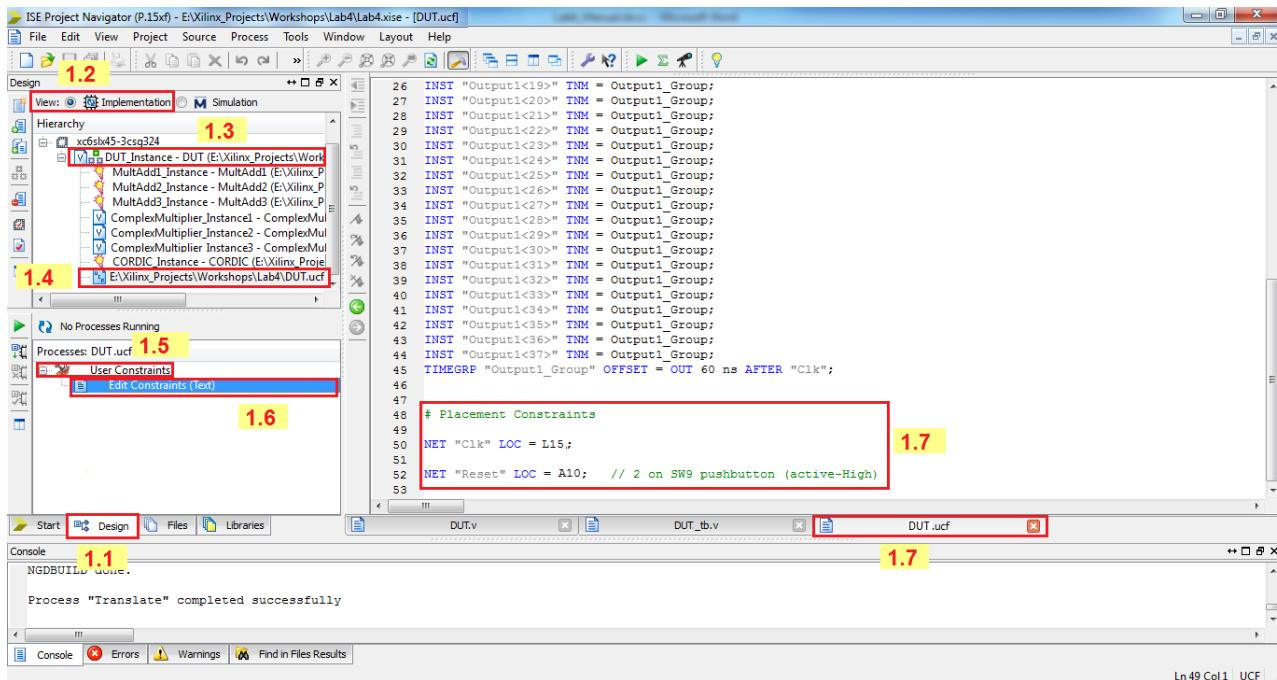

Figure 16.
1. Entering Location Constraints in UCF using ISE Text Editor (Figure 16)